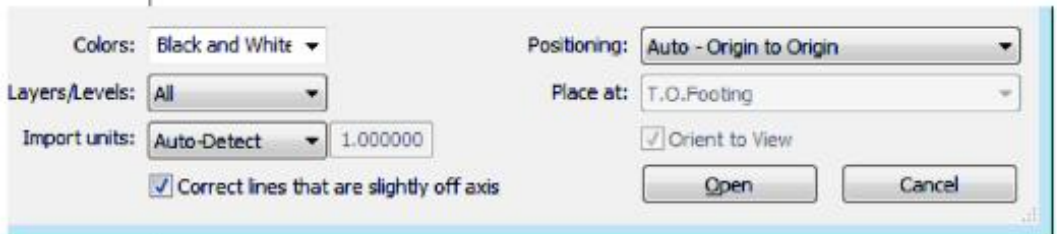

Figure 16–47
5. In the Import CAD Formats dialog box, select the AutoCAD drawing **Roof-Detail-M.dwg** from your practice folder. Change the *Colors* to **Black and White** and keep the other default options, as shown in Figure 16–47.